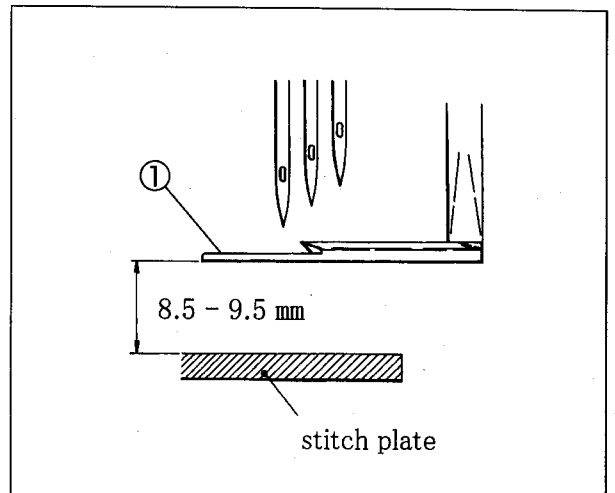

Fig. 48
- (4) Make the height from the top of the stitch plate to the bottom of the spreader ① to 8.5 - 9.5 mm. Then tighten the screw ③ securely. (Figs. 48 and 49)